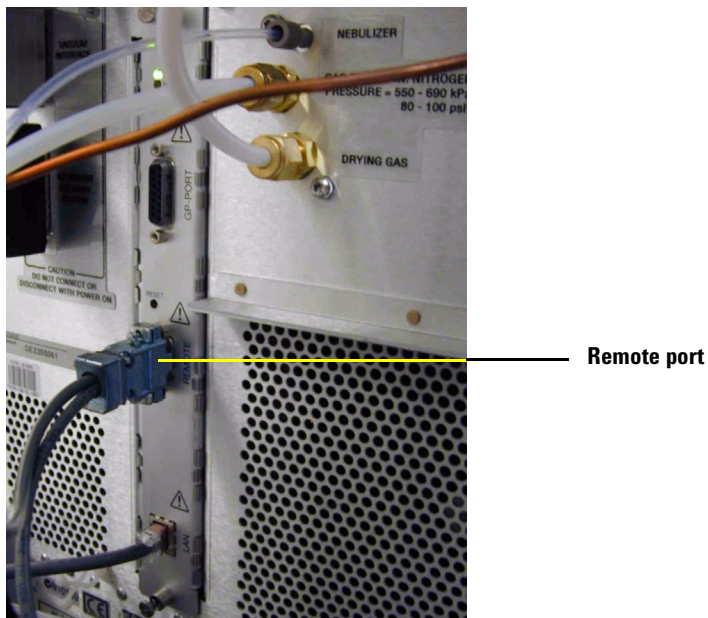

Figure 38 Connect the Laser Synchronization cable to the Remote port
- a Attach the 9-pin connector with two cables present to the **Remote** port on the LC/MSD Trap Processor Board. See Figure 38.